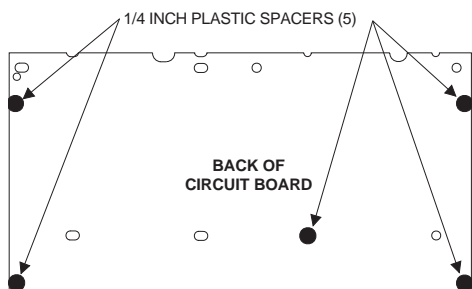

Figure 5. Installing the Board Mounting Spacers
6. Snap the included 1/4 inch plastic spacers into the back of the circuit board as shown in Figure 5.